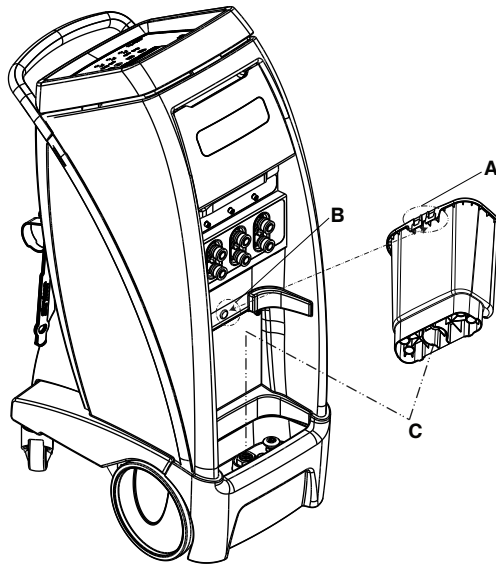

Figure 8 – Removable reservoir
To remove the reservoir, pull forward at an angle, and lift out the reservoir (Figure 8).
1. To replace the reservoir, align the base of the reservoir over the drain (C).
2. Align the notch on the back of the reservoir (A) with the hook on the controller (B) (Figure 8)